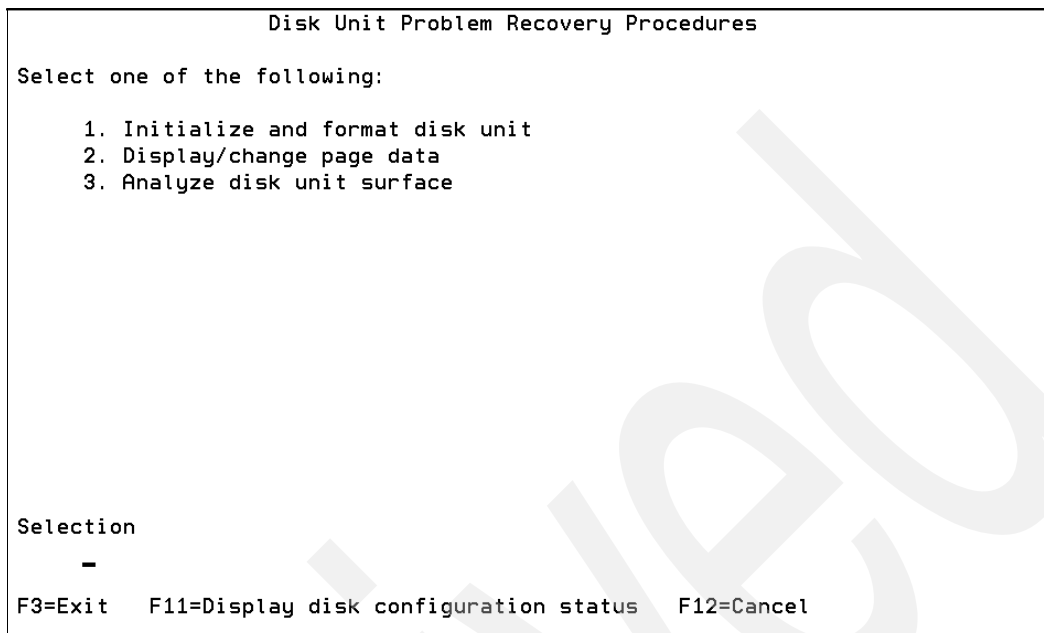

Figure 3-20 The Disk Unit Problem Recovery Procedures screen
10. In the Disk Unit Problem Recovery Procedures screen (Figure 3-20), enter 1 (Initialize and format disk unit).